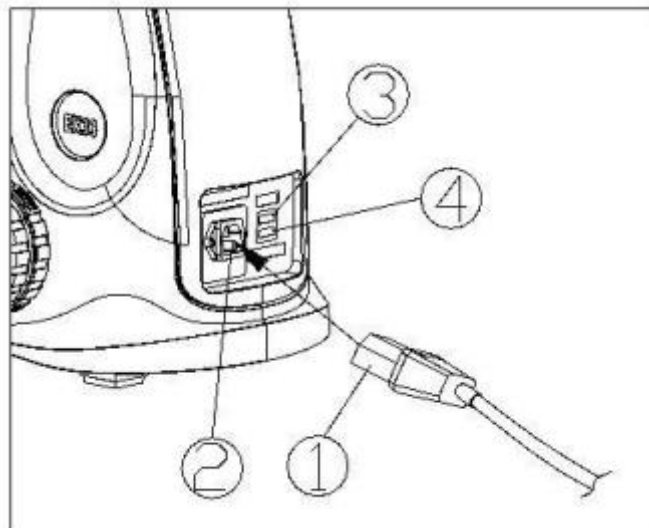

Figure 8
3. The input interface (③) uses a charging bank with PD protocol and a fast-charging cable to power the microscope.
4. The output interface (④) can be connected to a USB cable to power a mobile phone or tablet. (See Fig. 8)